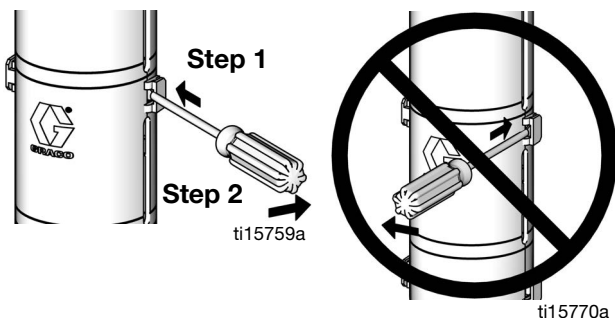

FIG. 3. Shield Disassembly
3. Remove the 2-piece shield (9) by inserting a screwdriver straight into the slot, and using it as a lever to release the tab. Repeat for all tabs. **Do not** use the screwdriver to pry the shields apart. See Fig. 3.